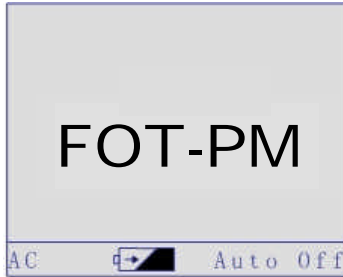

Figure 4.1 Boot-strap GUI of Optical Power Meter
- Power on the instrument, the GUI is displayed (as in Figure 4.1);